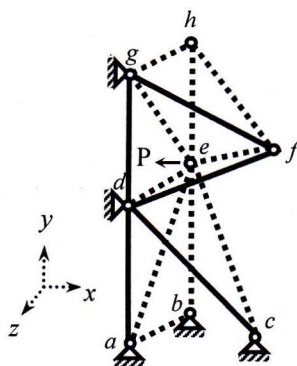

Fig. 5
- Ignore zero-force members and apply boundary conditions to form the stiffness matrix of the space truss *abcdefgh* shown in **Fig. 5** [Given: $S_x = \text{constant} = 10^4$ N/mm, Nodal Coordinates (m) are $a(0,0,0)$, $b(0,0,-10)$, $c(20,0,-5)$, $d(0,20,0)$, $e(0,20,-10)$, $f(20,30,-5)$, $g(0,40,0)$, $h(0,40,-10)$].